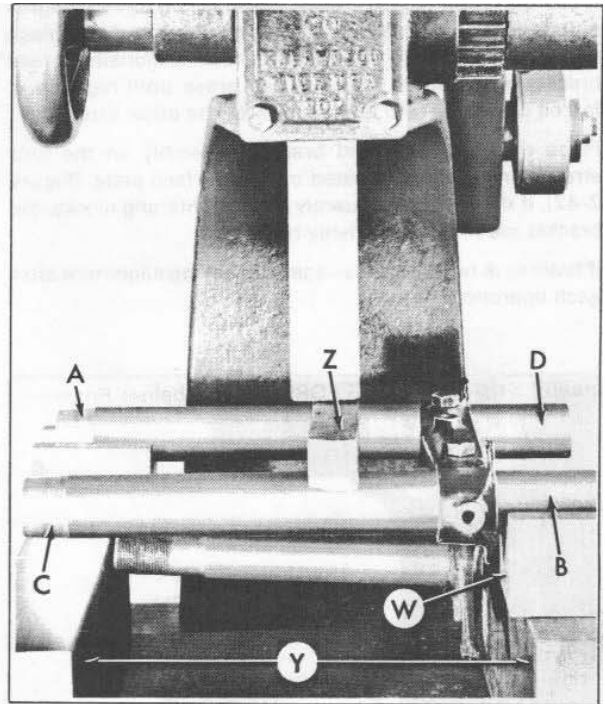

Figure 2-40. Straightening Fork Stem and Bracket Assembly
**STRAIGHTENING FORK STEM AND BRACKET ASSEMBLY (Figure 2-40)**
Insert two steel gauging bars in the fork bracket and secure in place with two bracket pinch bolts as shown in Figure 2-40.
If both legs are twisted, place bracket assembly in position in arbor press as shown in Figure 2-40. Place two